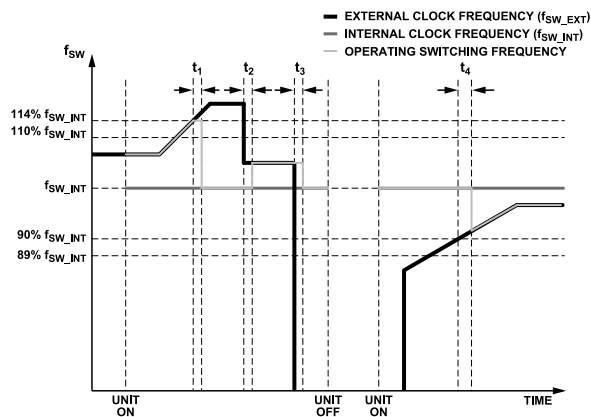

Figure 15. Synchronization Operation
2. If all periods of the most recent 64 consecutive cycles of the external clocks fall within 90% to 110% of the internal switching clock period, the ADP1050 uses the latest current cycle as the synchronization reference, and the period of the external clock is identified. This interval is t_2 or t_4 , as shown in Figure 15. Otherwise, the ADP1050 discards this cycle and looks for the next cycle (frequency capture mode).
5. If the external clock signal is lost at any time, or if the period exceeds the minimum limit (89% of the internal programmed frequency) or the maximum limit (114% of the internal programmed frequency), the ADP1050 takes the last valid external clock signal as the synchronization reference source. At the same time, the phase shift between the synchronization reference and the internal clock is detected. When the phase shift falls within the phase capture range, the PWM clock returns to the internal clock set by the internal oscillator. This interval is t_1 or t_3 , as shown in Figure 15. This is the first synchronization unlock condition, called Synchronization Unlocked Mode 1, in which the switching frequency is out of range (range is 89% to approximately 114% of the internal programmed frequency).
Figure 15 shows the synchronization operation diagram. The internal frequency, f_{SW_INT} , is the internal free-running frequency of the ADP1050. Before the synchronization is locked, the ADP1050 runs at f_{SW_INT} . The external frequency, f_{SW_EXT} , is the frequency of the external clock to which the ADP1050 must synchronize. After synchronization is locked, the ADP1050 runs at f_{SW_EXT} .